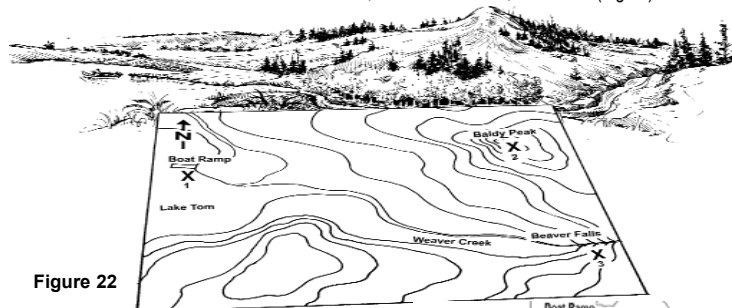

Figure 22
4. Find and mark all three landmarks with an 'X', and label them '1', '2' and '3'. (Fig 22)